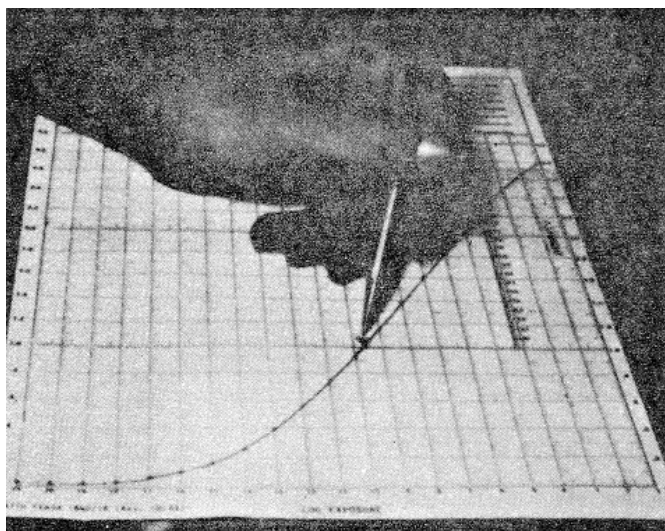

Figure 41
- (1) Place the point of the arrow along the straight line portion of the curve (figure 41).